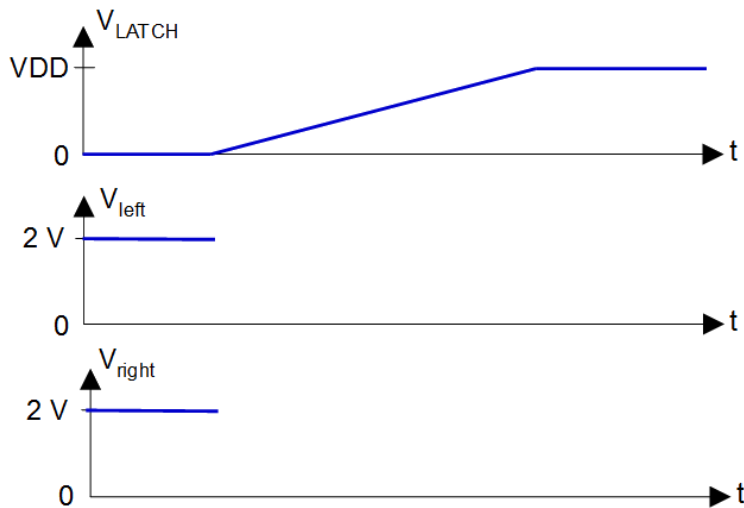

Fig. 5.2
a) Suppose the voltage V_{left} on the left bit line is exactly 2.010 V when LATCH starts to rise, while the voltage V_{right} on the right bit line is 2.000 V. Complete Fig. 5.2 below showing how V_{left} and V_{right} change with time as LATCH rises. Briefly explain your answer. No calculations are necessary. 3 marks